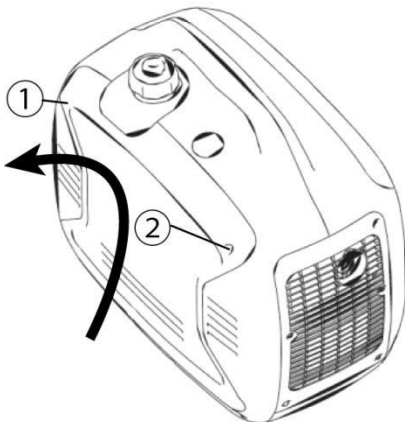

Figure 1
Using a #2 Phillips-head screwdriver remove screws ① and ② (seen in figure 1) and lift up and away to remove the side panel.